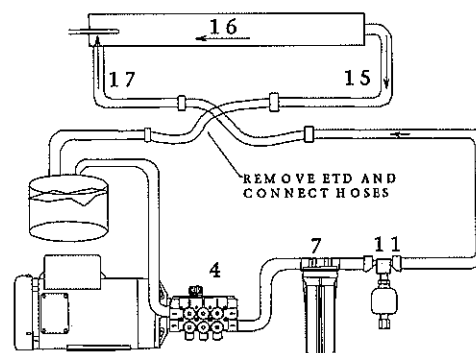

Figure 4.2.1 Illustrates the Circulation Cycle
Refer to Figure 4.2.1. for a visual illustration of the Circulation Cycle
7. Disconnect the Brine Discharge line from the Brine Discharge Through Hull [28] and place it in the 5-gallon container for Closed Loop Circulation. Refer to Figure 4.2.1 for a visual illustration of the Circulation Cycle